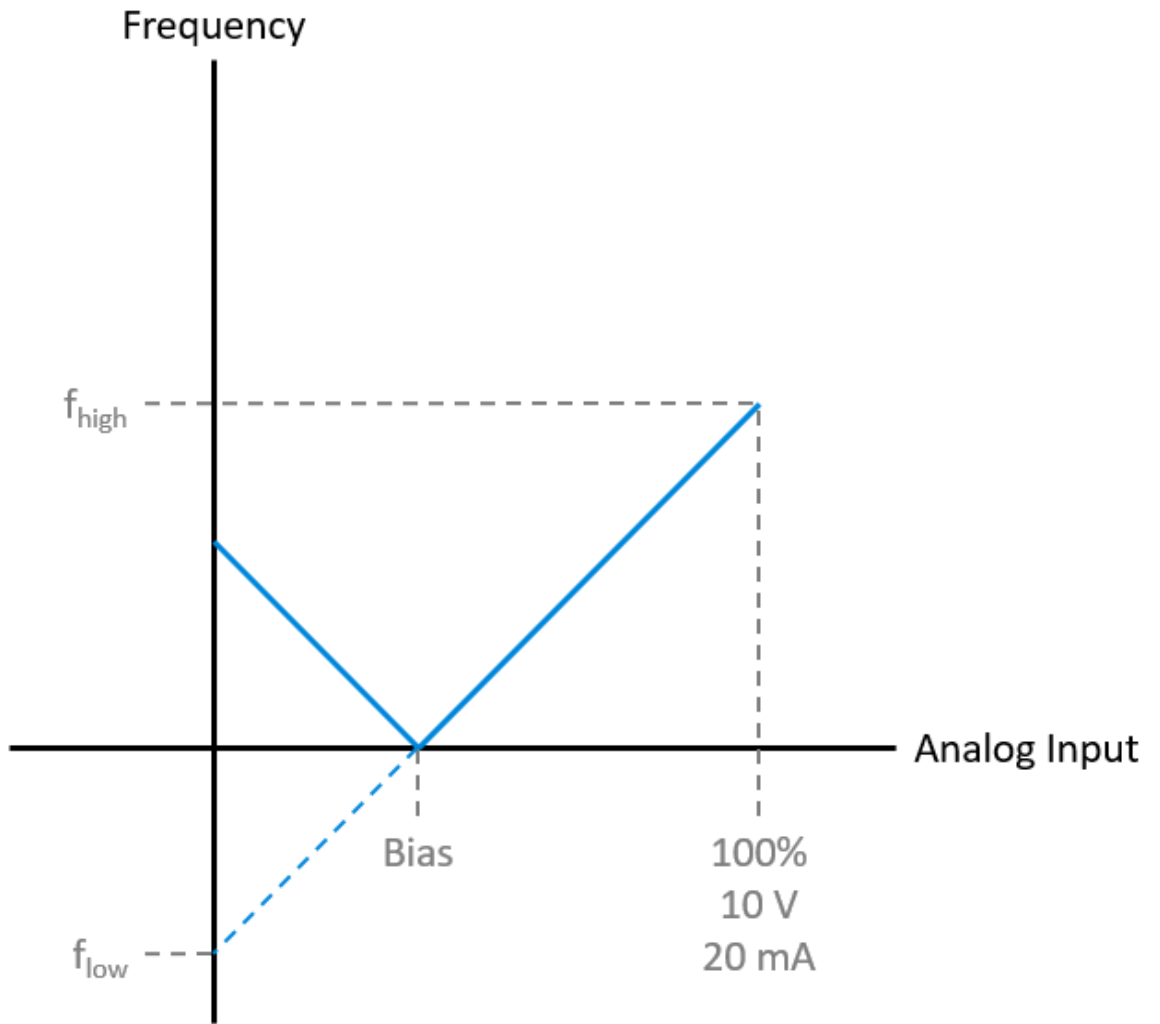
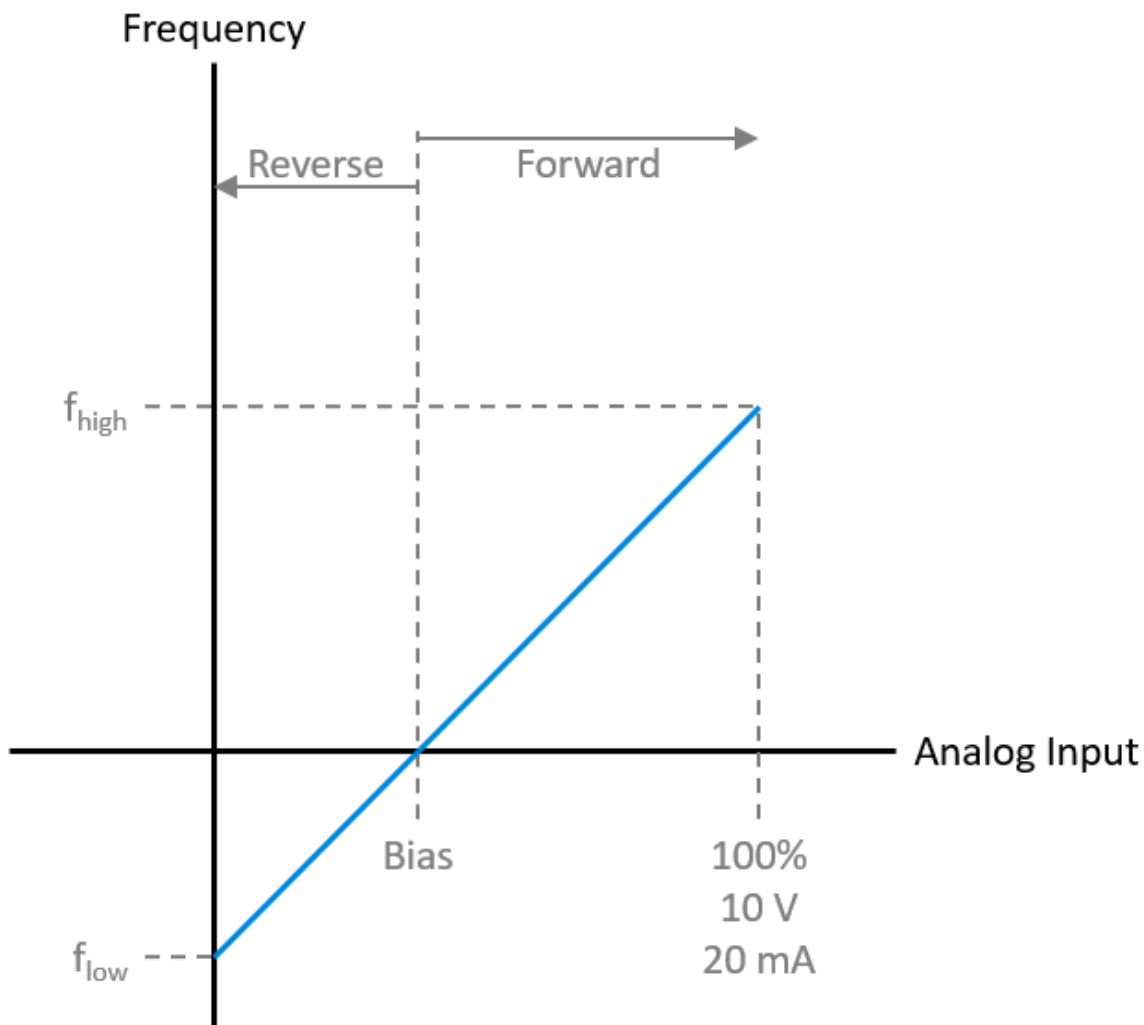

Figure 3.1.4 “The Absolute Value of the Bias Voltage while Serving as the Centre” Curve
Figure 3.1.5 “Bias Serves as the Centre” & “Negative Frequency Allowed” Curve
- 4 means the frequency will be 0 at the bias value. It will rise above the bias. Its behaviour below the bias depends on the setting of 03-10 (C2000 series and M300 series) or 04.03 (VFD-E, VFD-EL, VFD-EL-W). If that parameter is 0, the curve looks like figure 3.1.4. If it is 1, the frequency will follow the curve through to the negative range like in figure 3.1.5. With this setting, above bias the motor runs forward and below bias it runs reverse.
For ME300 and MS300 potentiometers, there is no equivalent to 03-10. Setting 03-41 = 4 always works like in figure 3.1.4.